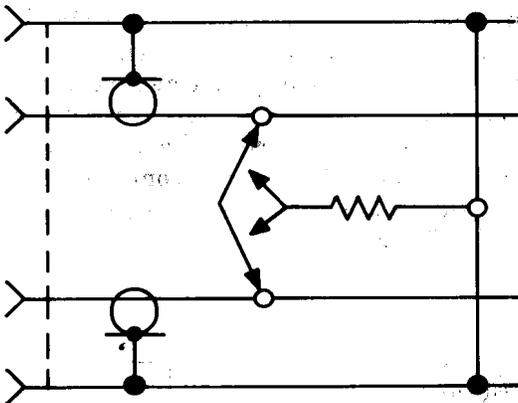

Fig. 27—545A or B Jack
2.23 545A and B: The 545A and B are twin coaxial-type jacks (Fig. 27) designed to be mounted in jack mountings such as the 230 and 231 types. The inner contacts are electrically common. When a plug is inserted into one of the jack fingers, the electrical connection between the center contacts is broken, and the center contact of the other finger is shunted through a resistor to the outer contacts. When plugs are inserted in both jack fingers, the electrical connection between the center contacts is broken.